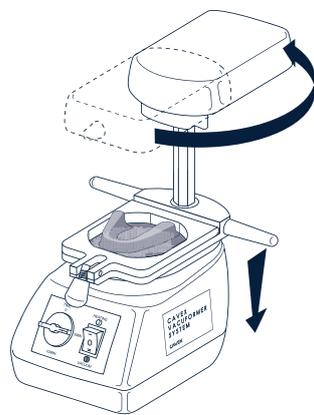

Fig. 7
7. Switch on the vacuum pump (via 0 to =). Using both hands, gently move the frame downwards so that the plate will drape over the model. Turn the heating element to the rear (fig. 7). Let the vacuum pump run for 1 minute. Wait until the plate has cooled completely before removing it from the device.